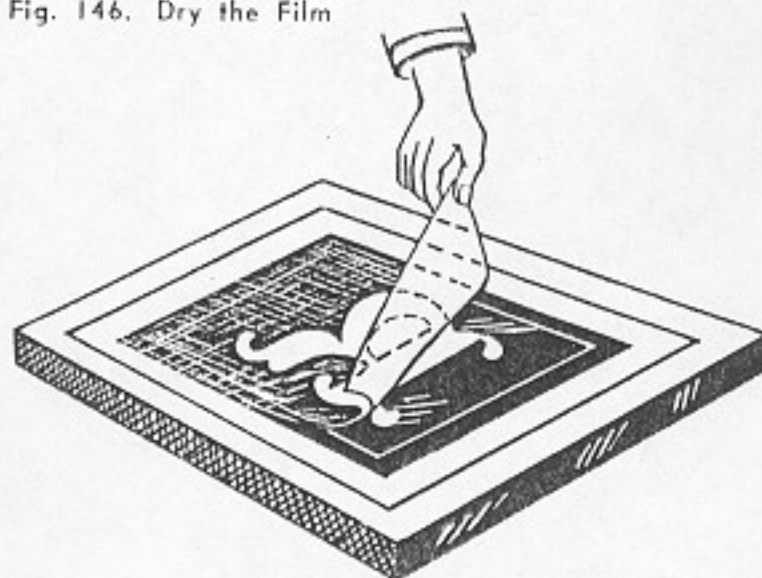

Fig. 147. Remove the Backing
14. After the film is thoroughly dry, reverse the screen frame and gently peel the transparent film backing away from the gelatin, Fig. 147. Work slowly and use great care not to tear the gelatin around the open areas.